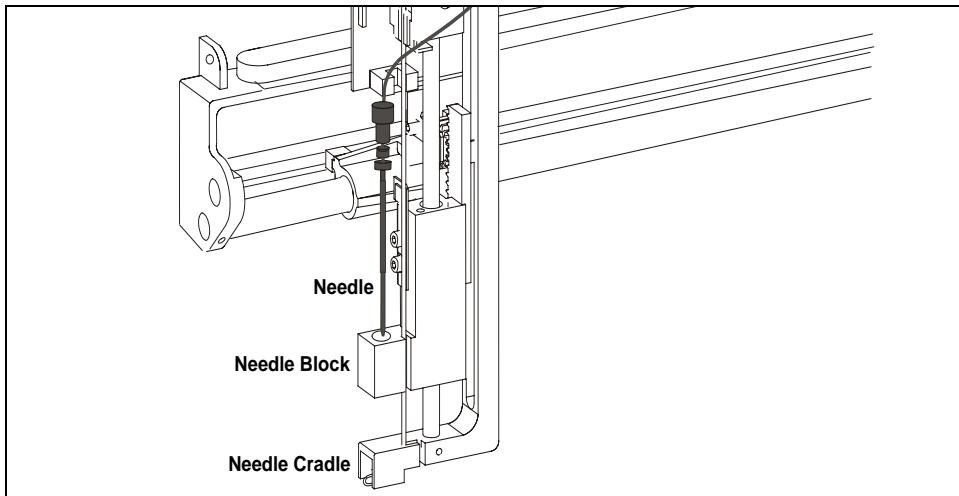

Figure 5-8. Installing the Needle in the Cradle
2. From the top, carefully insert the needle into the needle block (see Figure 5-8), making sure the needle is vertical and centered over the opening inside the block.